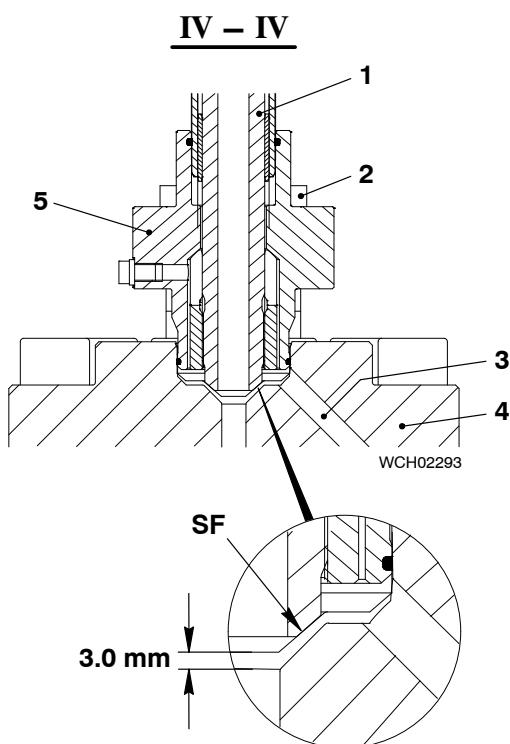

Fig. 2
- 4) If the HP fuel pipes must be replaced, remove the insulation from the HP fuel pipes (1, Fig. 2).
- 7) Loosen the four screws (2, Fig. 2) on the flange (5) a maximum of three turns.
- Note:** The fuel will drain through the drain bore (3) into the fuel leakage pipe.
- 8) Move the HP fuel pipe (1) up. Make sure that there is a distance of approximately 3.0 mm between the fuel pump cover (4) and the HP fuel pipe (1).